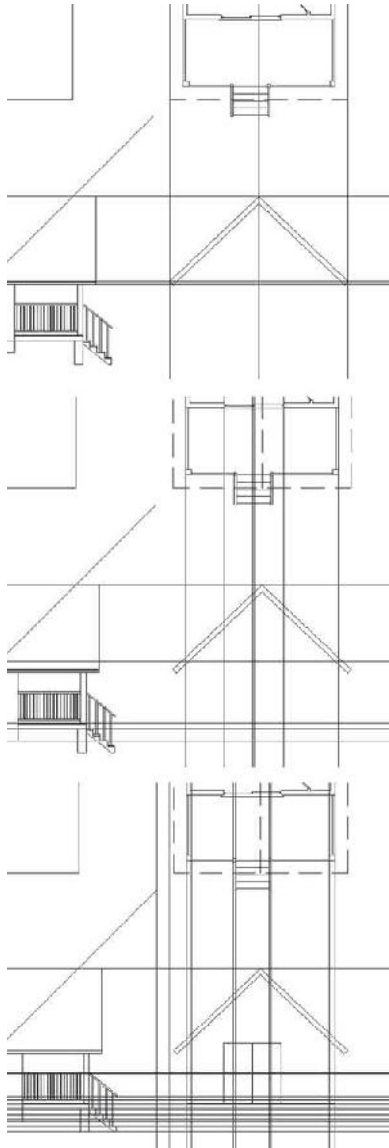

FIGURE 10.53: Incrementally drawing the front elevation starting with the roof (top); the wall, door, and foundation (middle); and finally the deck (bottom)
- a. Draw the roof first and remember that there is a thin layer of roof covering (see the top of Figure 10.53).
You won't be able to get the height line for the sliding glass door from the side elevation. It's 7'-3" (2210 mm) from the top of the deck (see the middle of Figure 10.53).
This process can create a congested drawing, and you may want to draw the guidelines only as necessary to draw each component and then erase them. (See the bottom of Figure 10.53.)